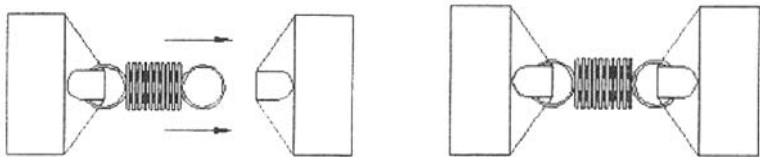

Figure 1
3. Wrap the heater around the drum. Extend the spring attached to the metal tab; latch the spring loop onto the hook on the opposite side as shown in **Figure 1**.